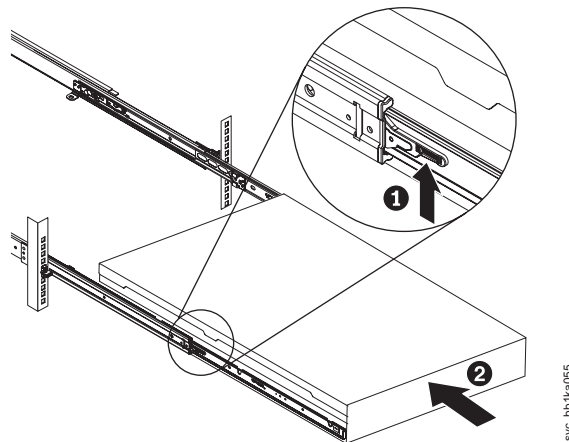

Figure 29. Raising the SAN Volume Controller 2145-CF8 locking levers of the slide rails of the rack
8. Lift the locking levers (**1** in Figure 29) on the slide rails and push the server **2** all the way into the rack until it clicks into place.